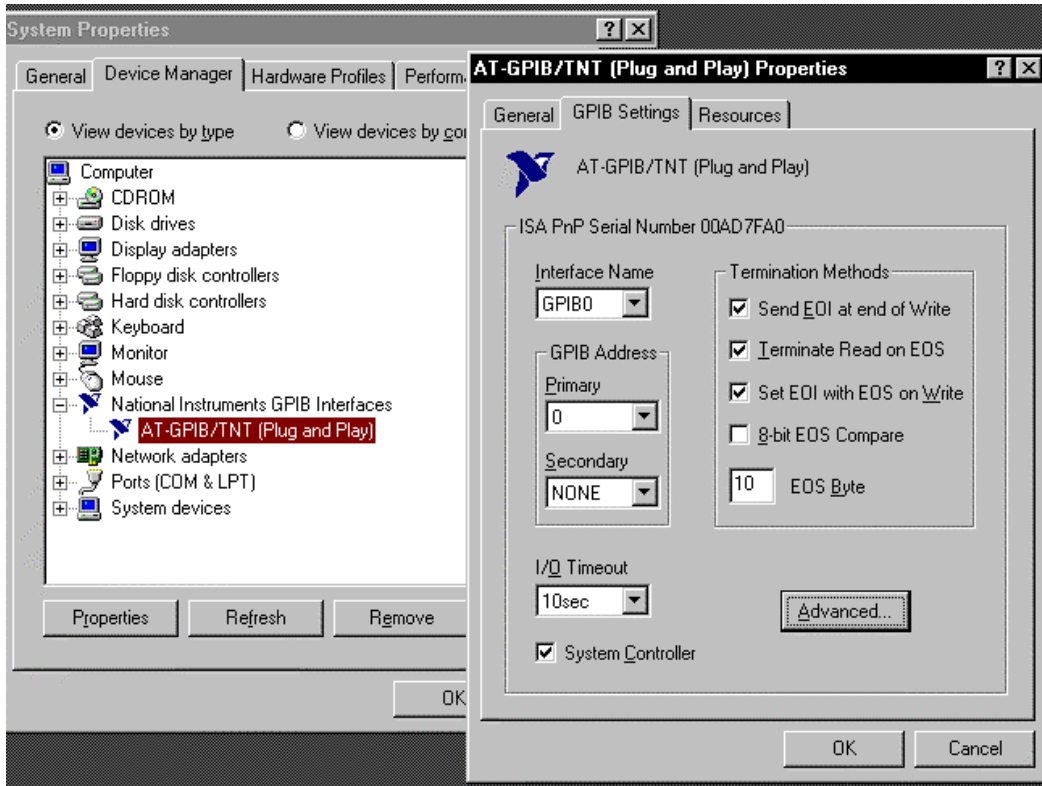

Figure 6-1. GPIB0 Setting Configuration
4. Configure the GPIB by selecting the System icon in the Windows 98/95 Control Panel located under Settings on the Start Menu. Configure the GPIB Settings as shown in Figure 6-1. Configure the DEV12 Device Template as shown in Figure 6-2. Be sure to check the Readdress box.